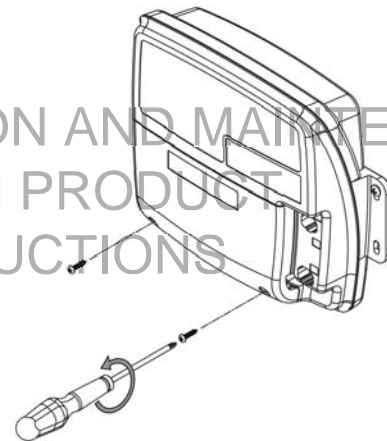

Figure 6
1. Using a Phillips-head screwdriver, remove the two cover screws from the front of the AudioSteam (Figure 6), and remove the cover from the unit.